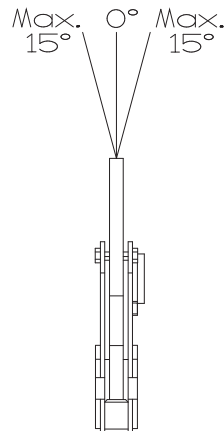

Figure 2:
5. Never exceed fifteen degrees (15°) side load with a Model HBC clamp (Fig. 2).
3. Ensure the clamp is positioned so the direction of force applied by the crane is in line with the lifting shackle (Fig. 2).
WARNING: Never exceed 15° side loading with a Model HBC clamp (Fig. 2).